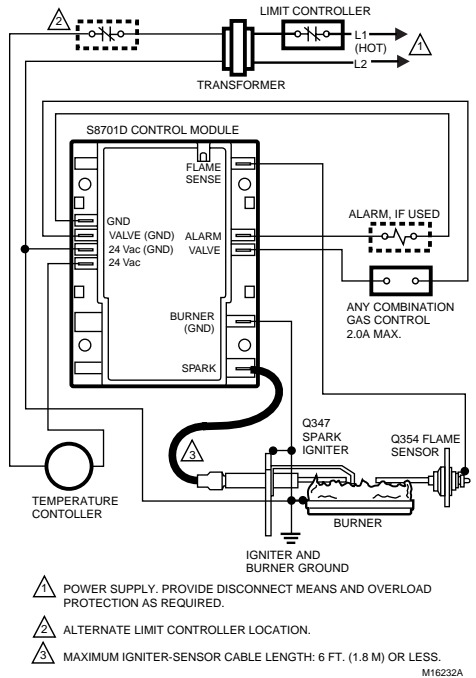

Fig. 2. S8701 Wiring Diagram.
1. Connect system components to the S8701/S8702 terminals as shown in the wiring diagrams, Figs. 2 and 3. Refer to the appliance manufacturer's instructions for wiring any other auxiliary controls.